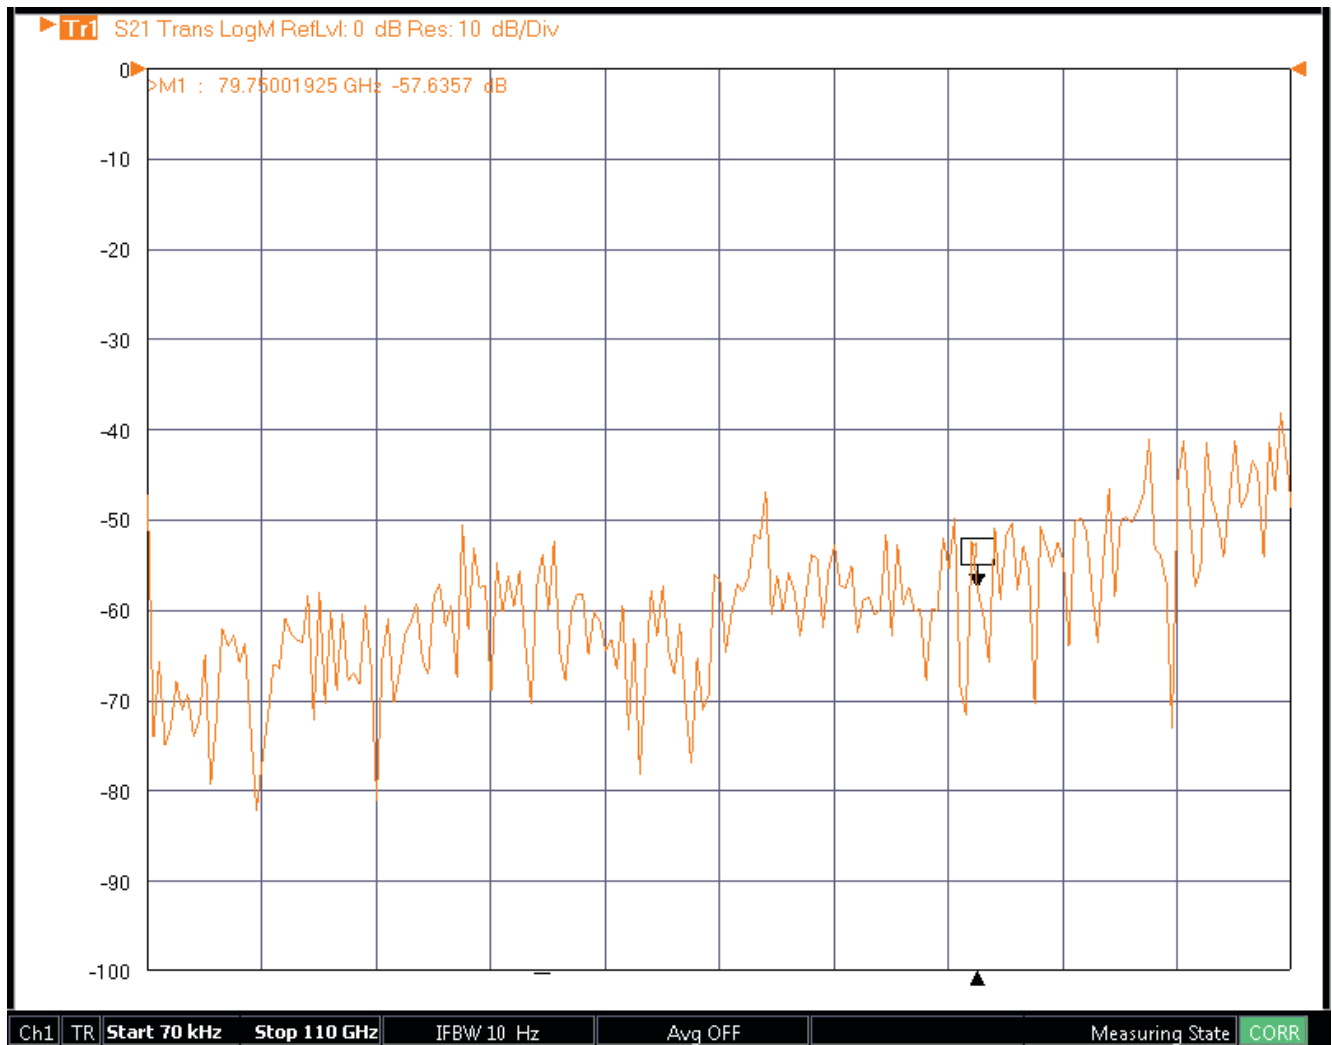

Figure 3-24. Typical Noise Floor Display—Reference Only
- a. Click on **Reference Position** and set it to 10. The screen should look like Figure 3-24. The frequency list used in this plot is different from that set up in this procedure but the overall shape of the curve should be similar.